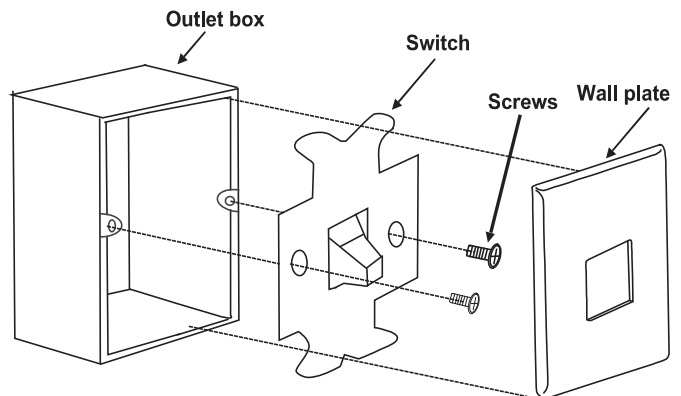

Figure 7
1. Remove the existing wall plate and switch. (Fig. 7)